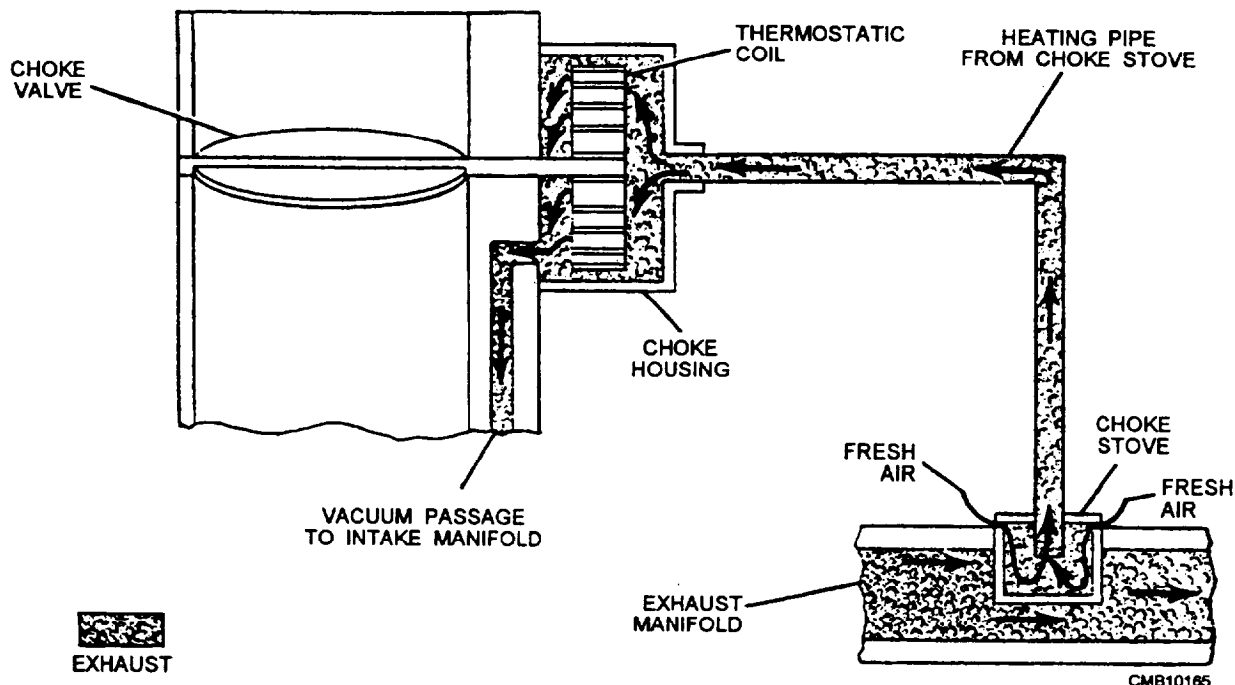

Figure 4-36.—Exhaust-manifold heat-tube choke.
- **EXHAUST MANIFOLD** (fig. 4-36) uses heat from the exhaust manifold to heat the thermostatic spring. The exhaust heat is brought to the choke through the means of a heat tube. The heat tube passes through the exhaust manifold, so as it takes in fresh air via the choke stove, it picks up heat from the exhaust without sending any actual exhaust fumes to the choke mechanism.